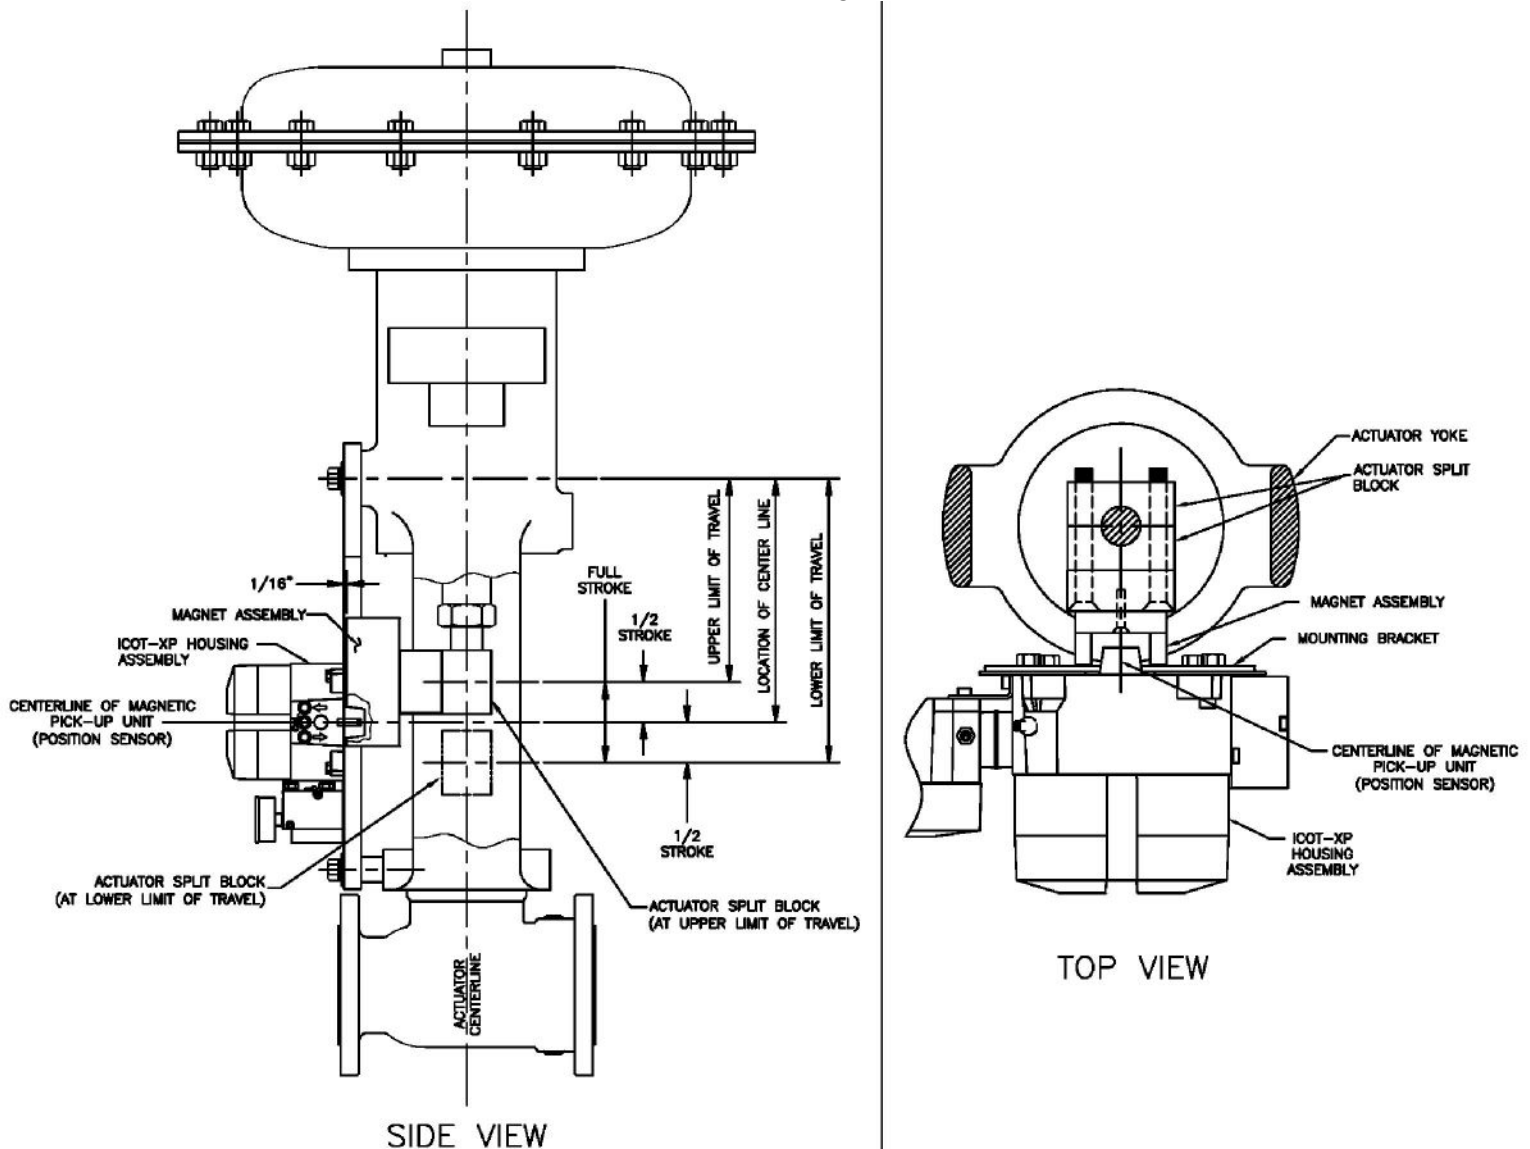

Figure 3-4
Step 3. Mount the positioner to the mounting bracket. The positioner should be mounted so the magnetic pick-up unit of the positioner is centered between the limits of the magnetic assembly's stroke. After mounting the positioner, the magnet assembly should be within 1/8" from the back of the positioner (1/16" is ideal), (See Figure 3-4)